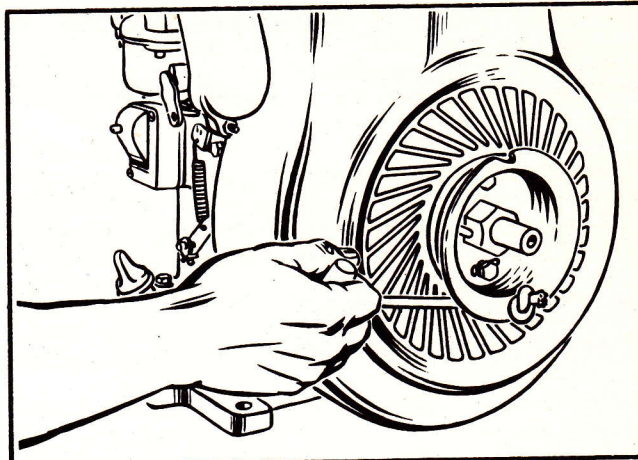

Figure No. 5
3. Place the knot on the starter rope in the notch on the starter pulley and wind the rope around the starter pulley. (See Figure No. 5.)